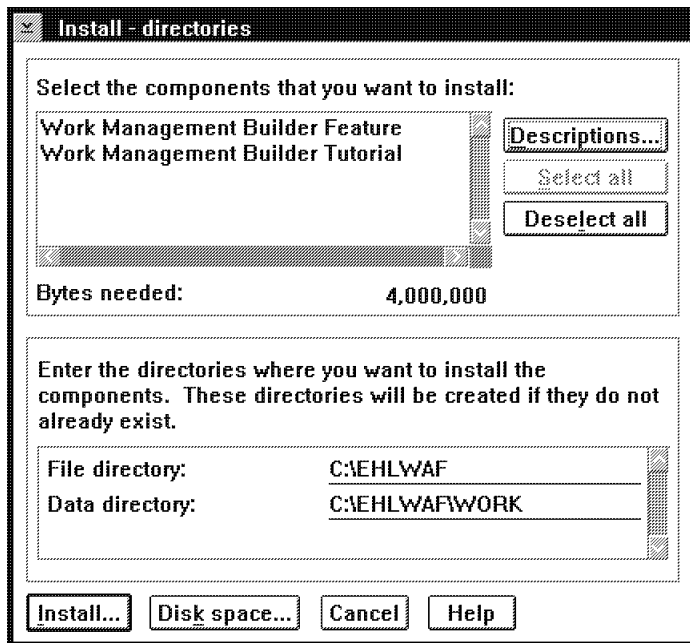

Figure 3. Install - Directories Window
- Click on the **OK** push button to start the installation process. The **Querying product information** message is displayed. You see the Install - directories window shown in Figure 3.